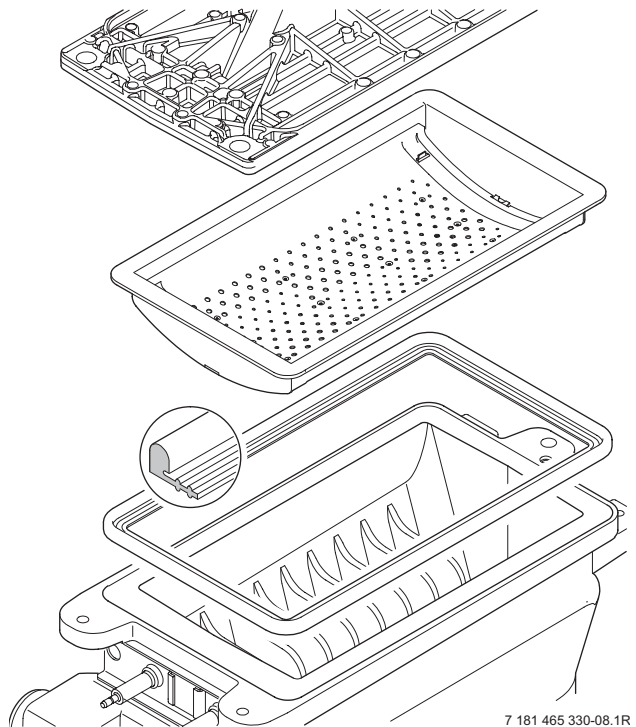

Fig. 51
- Remove the burner skin and clean components. Do not use a wire brush. Refer to fig. 51.